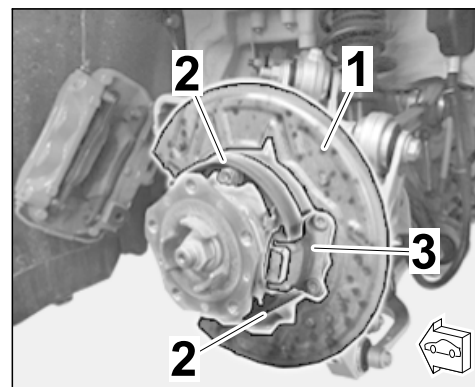

Figure 10
2.1.6 Secure the plunger in the spreader device (actuator/servo motor – at the left ⇒ *Figure 10 -3-*/right) with a tie-wrap to prevent it from turning.
2.1.7 Remove spreader device (actuator/servo motor – at the left ⇒ *Figure 10 -3-*/right) (⇒ *Workshop Manual '468519 Removing and installing spreader device (actuator)'*)